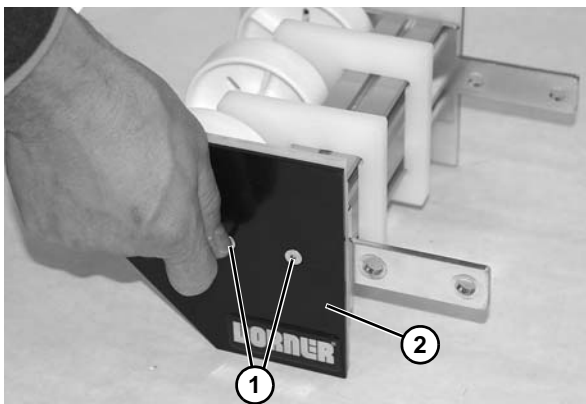

Figure 78
4. Remove two flat head screws (Figure 78, item 1) and cover plate (Figure 78, item 2). Repeat procedure on opposite side.